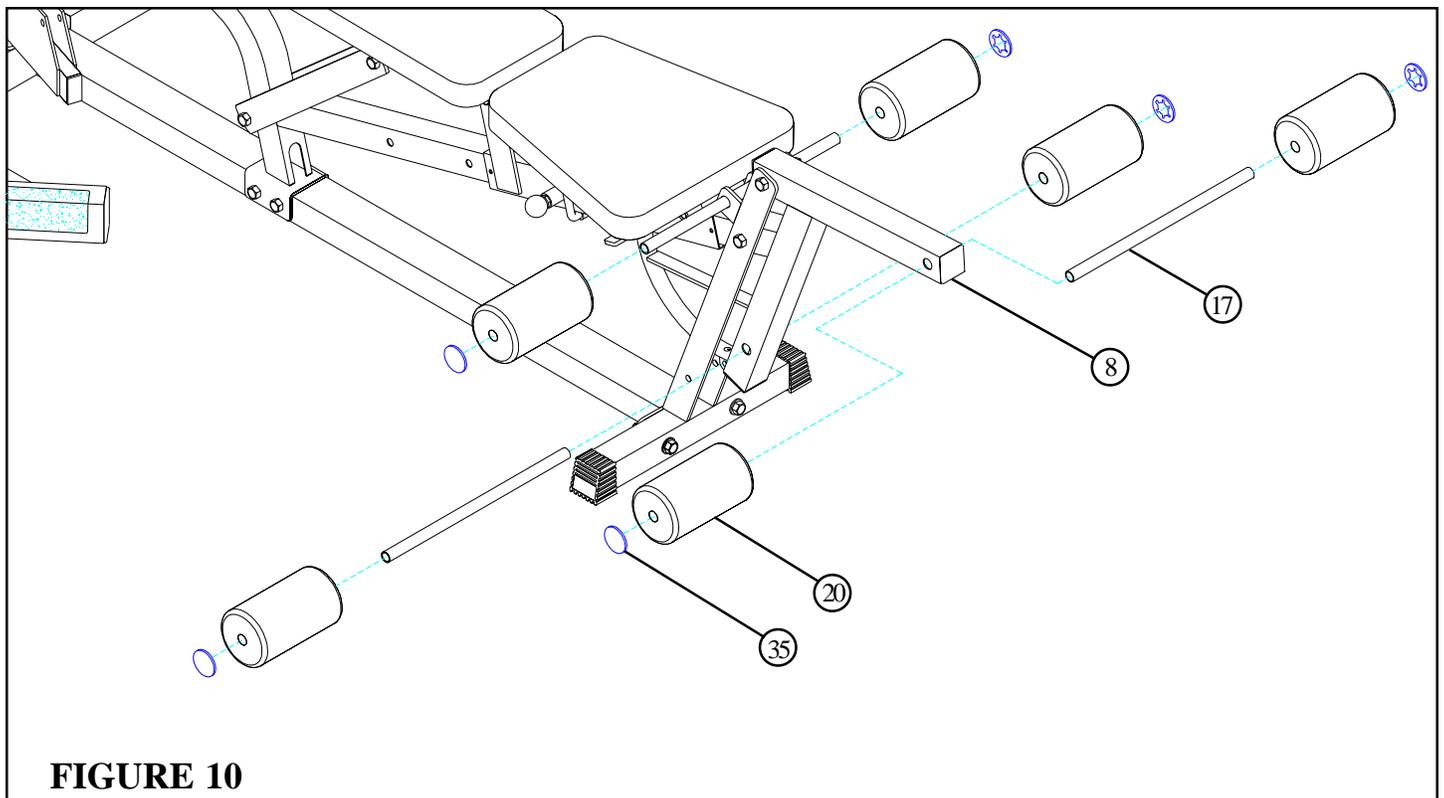

**FIGURE 9**
- Assemble four 4 X 7" ROLLER PADS (20) to the LEG CURL/EXTENSION (8) as shown on FIGURE 9 using two 3/4 DIA. X 16" TUBES (17) and four STARLOCK COLLARS (35).
- Assemble two 4 X 7" ROLLER PAD (20) to the tube on the BENCH FRAME (2) as shown on FIGURE 9 using two STARLOCK COLLARS (35) as shown in FIGURE 10.